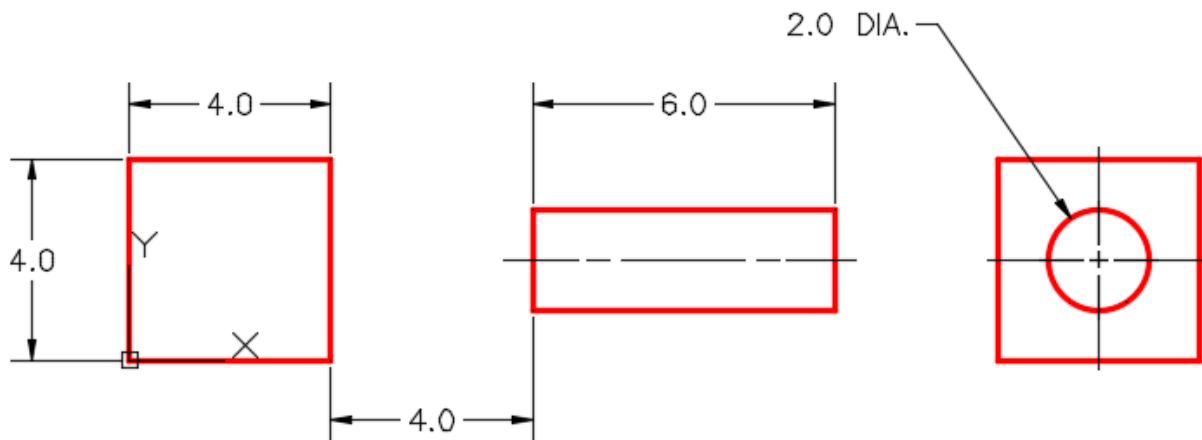

Figure Step 4A
Step 4 Draw two solid models using the multiview drawing as a reference. Start the bottom left corner of the cube at 0,0,0. (Figure Step 4A and 4B)